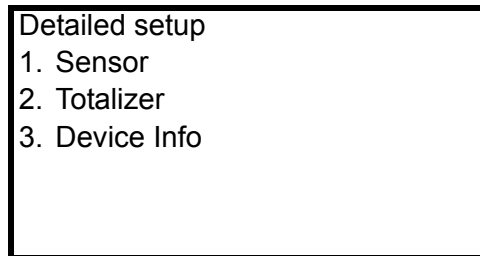

Figure 14 Detailed setup menu
2. Select “1. Sensor” from the detailed setup menu. (Figure 14)
1. Select “2. Totalizer” from the detailed setup menu. (Figure 14)